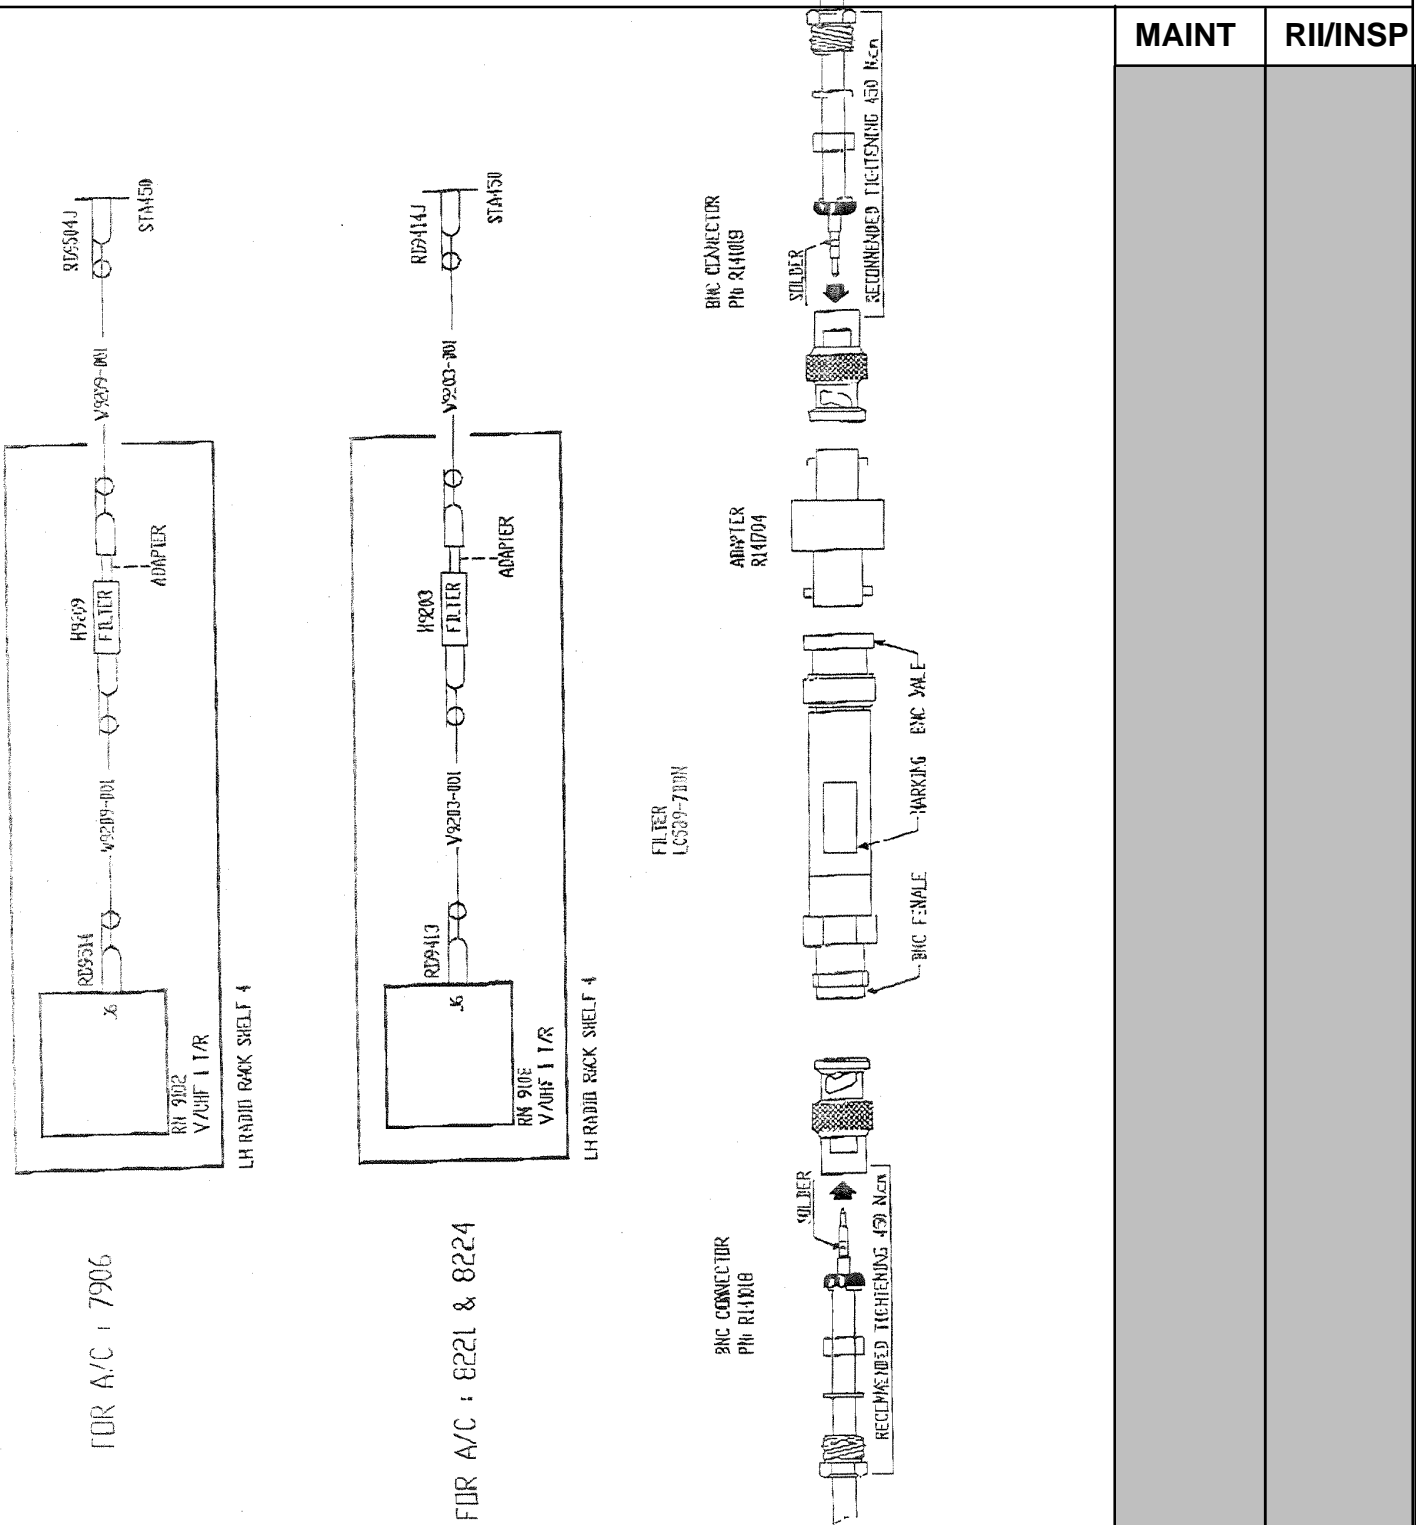

FIGURE 2
1.5 Insert the Adapter on the cable end which is routed to the RD9504J (RD9414J) sta 450 Terminal. (Refer to Figure 2)
1.6 Connect the male BNC connector of the Low Pass Filter LC539-7BBm to the Adapter P/N : R 141704. (Refer to Figure 2)
1.7 Fix the Filter at the most convenient place on the shelf 4 and advise Sabena Engineering. (Refer to Figure 2)
1.8 Connect the female BNC connector of the Low Pass Filter LC539-7BBm to the connector P/N : R141018 (Refer to Figure 2)